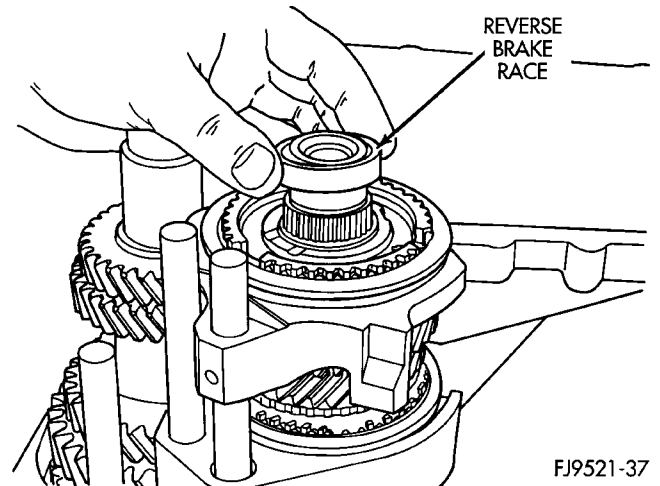

Fig. 60 Reverse Brake Race Installation
(4) Install reverse brake race onto input shaft (Fig. 60).